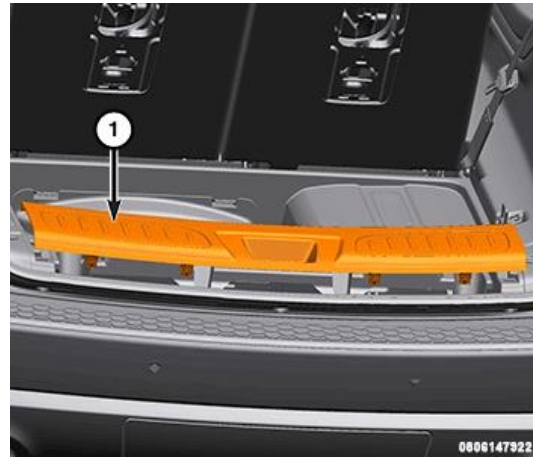

Figure 20 – Liftgate Scuff Plate
- 36. Using a trim stick, separate the retaining clips and remove the liftgate scuff plate (1) (Figure 20).
100. Align the retaining clips and seat the lift-gate scuff plate (1) (Figure 20).